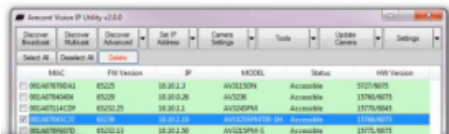
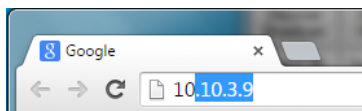

Figure 1: Double click via AV IP Utility
Figure 2: Type the camera IP address
1. To control the remote focus via the web interface, double click the camera within the AV IP Utility (Figure 1) or open your preferred web browser and type the camera's IP address (Figure 2).